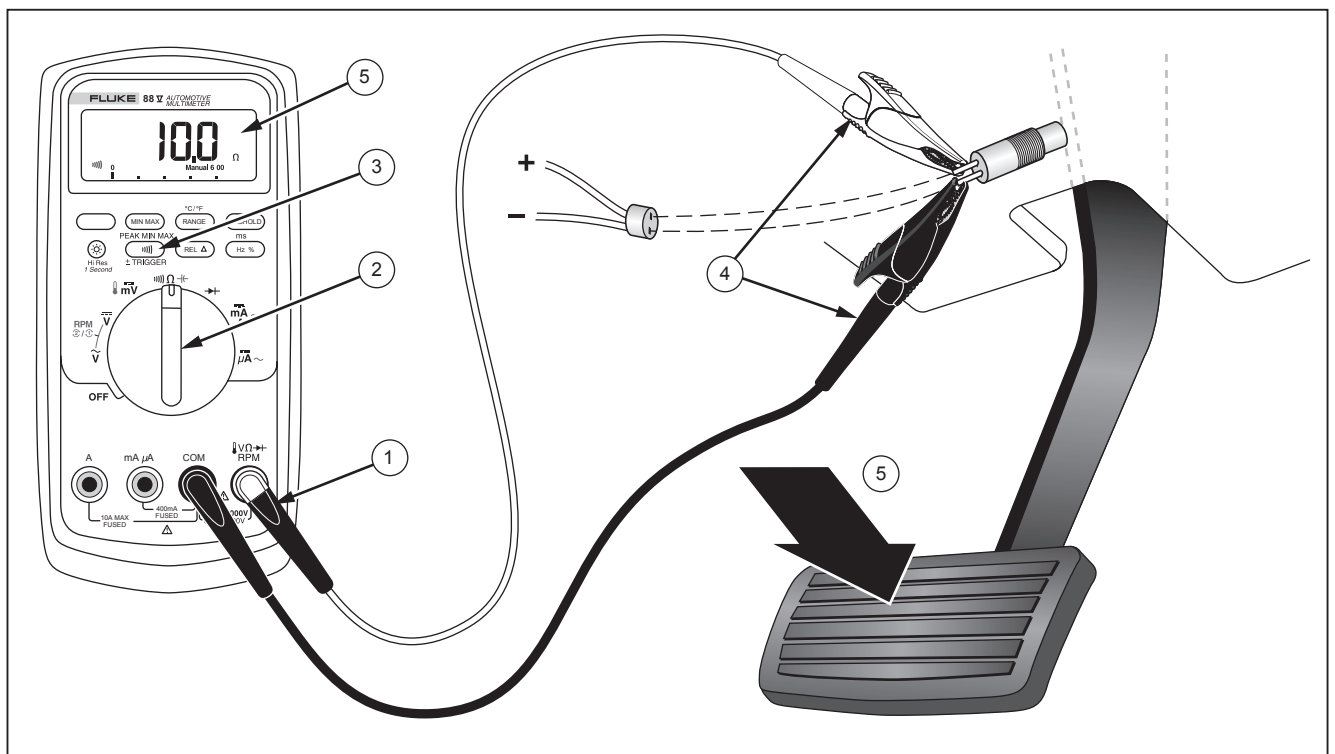

Figure 19. Testing for Continuity in a Switch
1. Insert test leads in the input terminals shown in Figure 19.